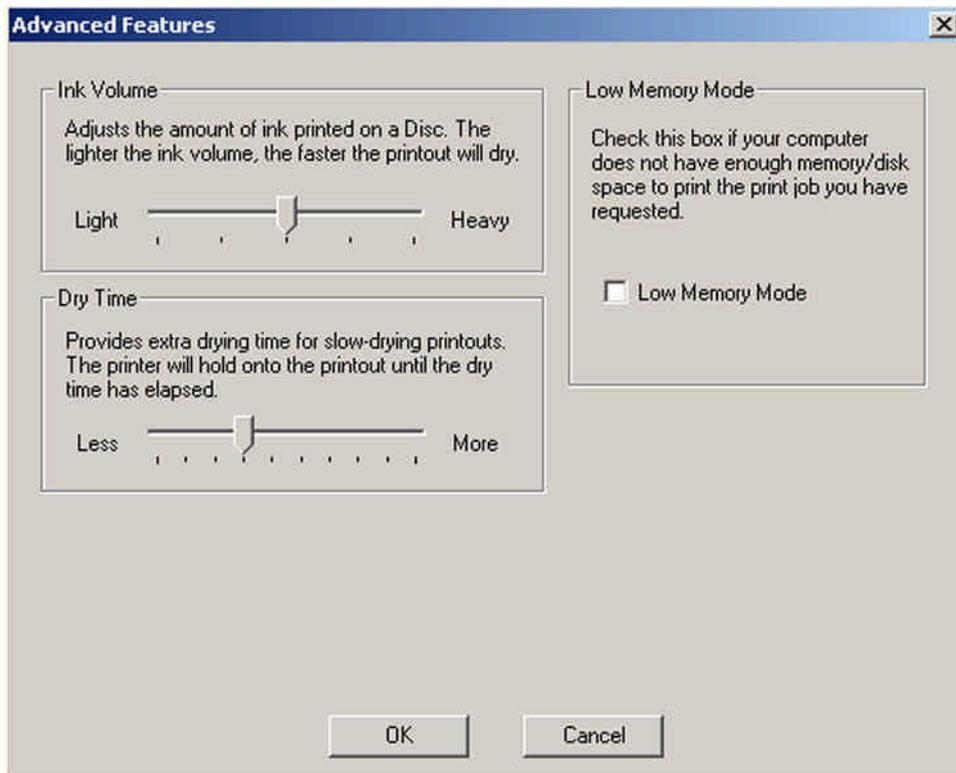

Fig. 19
- c. Select Advanced Features and you are presented with the following options (Fig.19):